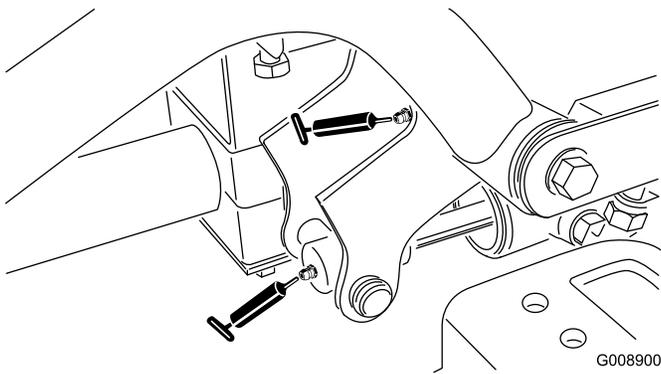

Figure 35
- Right front lift arm pivot and lift cylinder (2) (Figure 35)